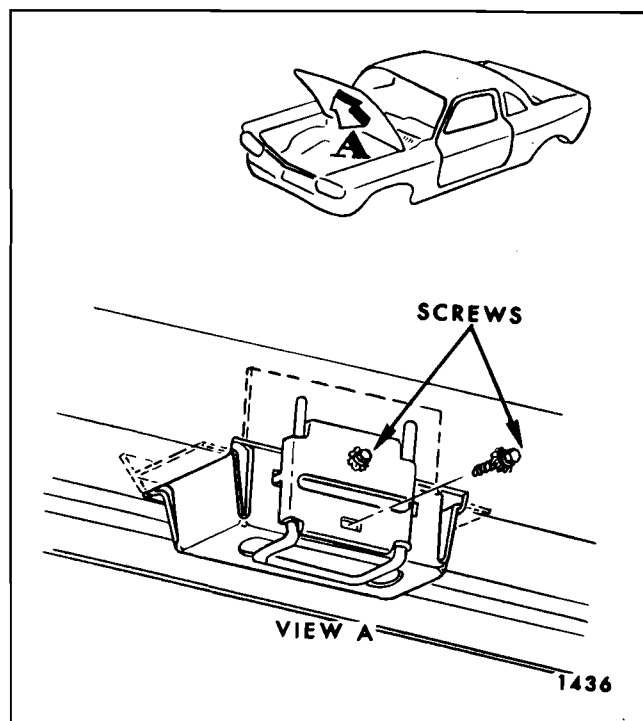

Fig. 5-30—Front Compartment Lid Lock Striker
2. Remove striker retainer plate attaching screws and remove retainer plate and striker (Fig. 5-30).